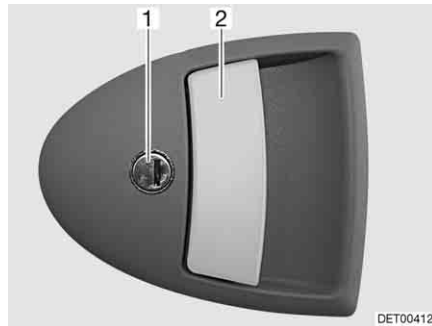

Fig. 33 Door lock of conversion door, outside
- Insert the key into locking cylinder (Fig. 33,1) and turn until the door lock is unlatched.
- Pull on the door handle (Fig. 33,2). The door is open.
- Insert the key into locking cylinder (Fig. 33,1) and turn until the door lock is engaged.